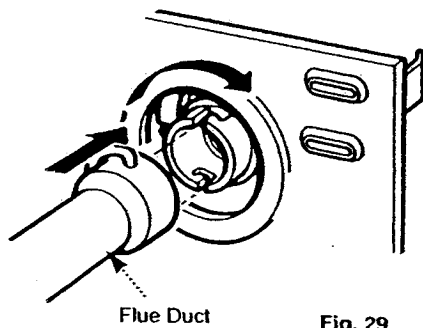

Fig. 29
3. Locate the swaged end of the flue duct over the bayonet fitting on the turret, taking care not to damage the 'O' ring. Lock the flue duct in place by pressing in and turning clockwise (Fig. 29).